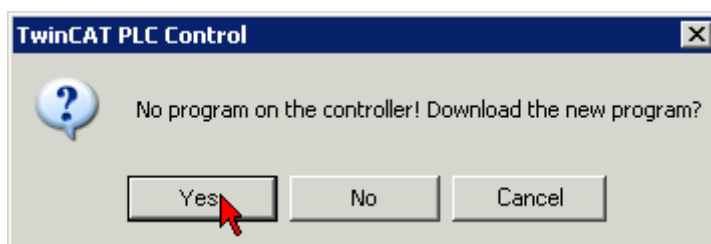

Fig. 6: Confirming program start
- In TwinCAT PLC Control: log in with the "F11" button, confirm loading the program (Fig. 6), run the program with the "F5" button